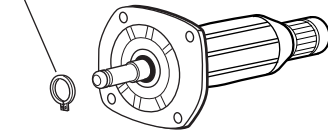
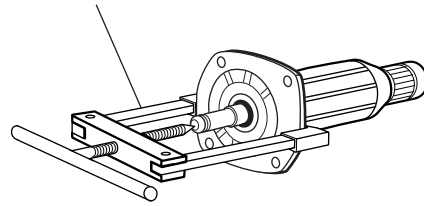

Fig. 1D
Fig. 1E
- (6) Take off retaining ring S-12 from armature shaft as illustrated in Fig. 1D. And disassemble armature from gear housing cover with No. 1R045 "Gear extractor (large)" as illustrated in Fig. 1E.